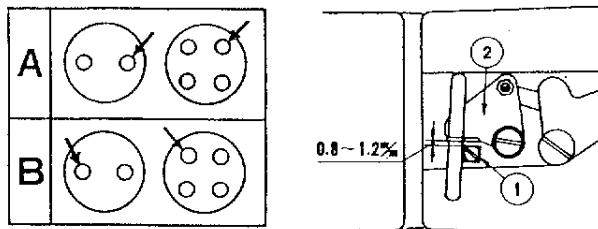

Fig. 10
CE REGLAGE EST EFFECTUE EN DESSERANT LA VIS 1 DU BLOC ARRIERE DE LA BARRE DE TENSION (2) EN INSERANT UN TOURNEVIS DANS LE TROU SITUE A LA PARTIE GAUCHE DE LA PLAQUE FRONTALE ET EN DEPLACANT LE BLOC DE GAUCHE A DROITE. DEPLACE VERS LA DROITE, LA LONGUEUR DE FIL EST AUGMENTEE ET DIMINUEE EN LE DEPLACANT VERS LA GAUCHE. LORSQU'A LA FIN D'UN CYCLE, L'EXTREMITE DU FIL APPARAIT AU TRAVERS DU TROU - FIG. 10 FLECHE A - DEPLACER VERS LA GAUCHE, SI LE FIL APPARAIT AU TRAVERS DU TROU - FIG. 10 FLECHE B - DEPLACER VERS LA DROITE, MAIS SANS QUE L'EXTREMITE DU FIL DISPARAISSE.